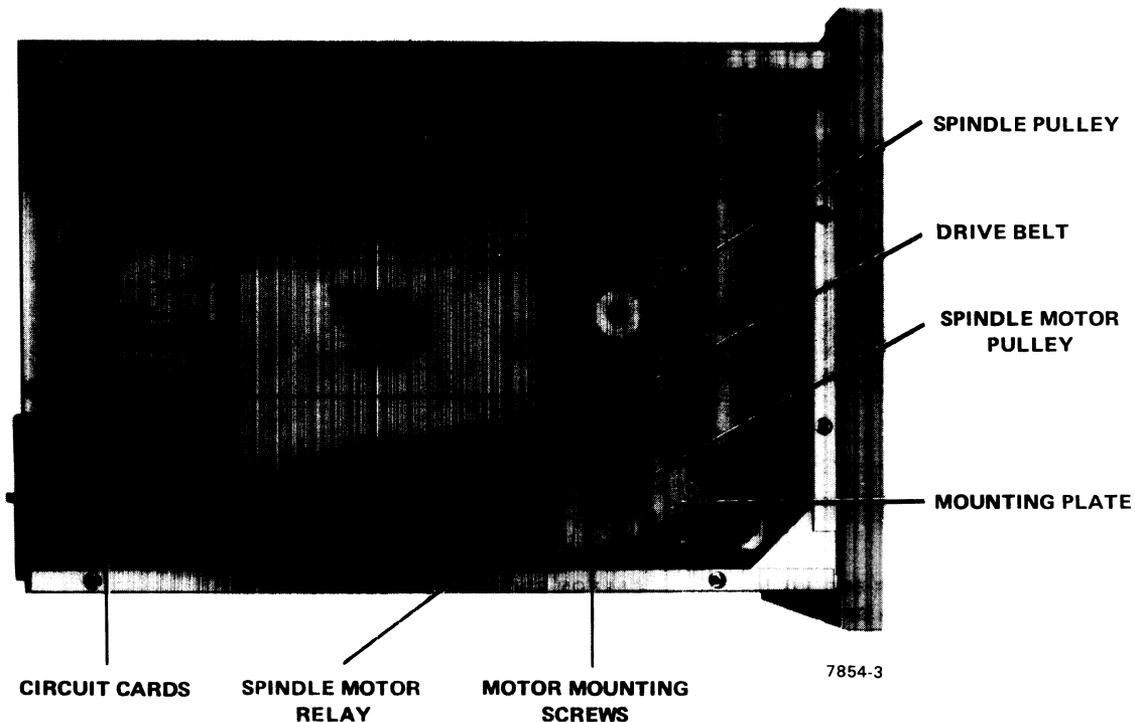

Figure 5-8 Drive Belt
3. Push the spindle motor mounting plate (Figure 5-8) toward the spindle and slip the drive belt around the pulleys.
5. Disconnect the spindle motor leads from TB4 (Figure 5-3) and from the spindle motor relay (Figure 5-8).
6. Remove the drive belt (Figure 5-8) by pushing the spindle motor mounting plate toward the spindle to relieve belt tension, and then slipping the belt off the pulleys.